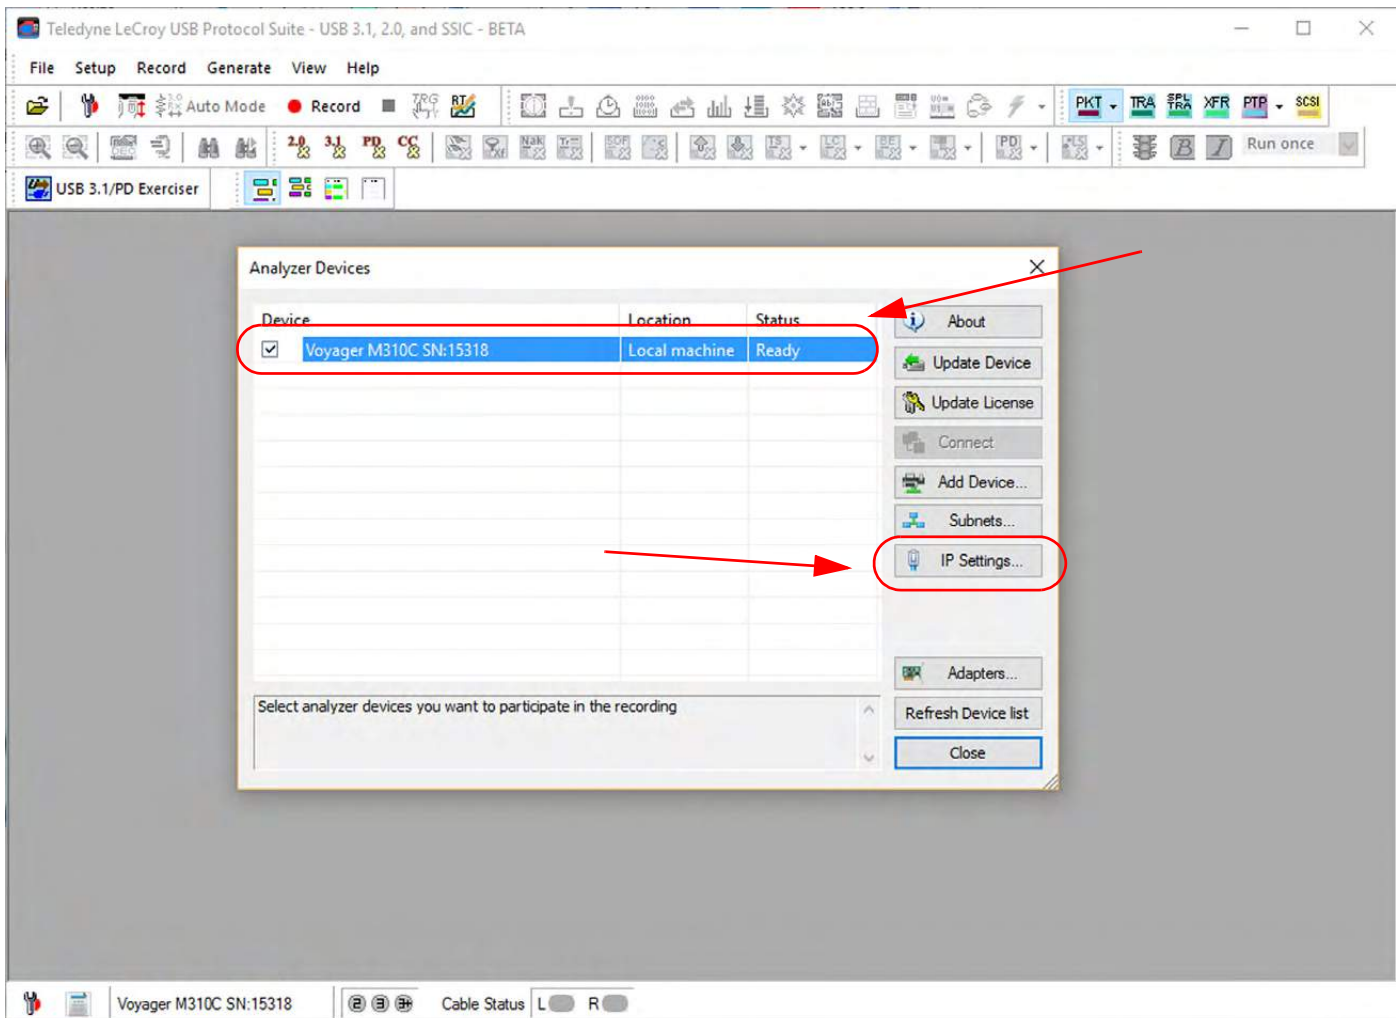

Figure 3.35: All Connected Devices: Analyzer Selected
4. Select All Connected Devices and the following window pops up, showing you the connected USB analyzer. In this case we have a Voyager M310C Ready to Connect. See Figure 3.35.